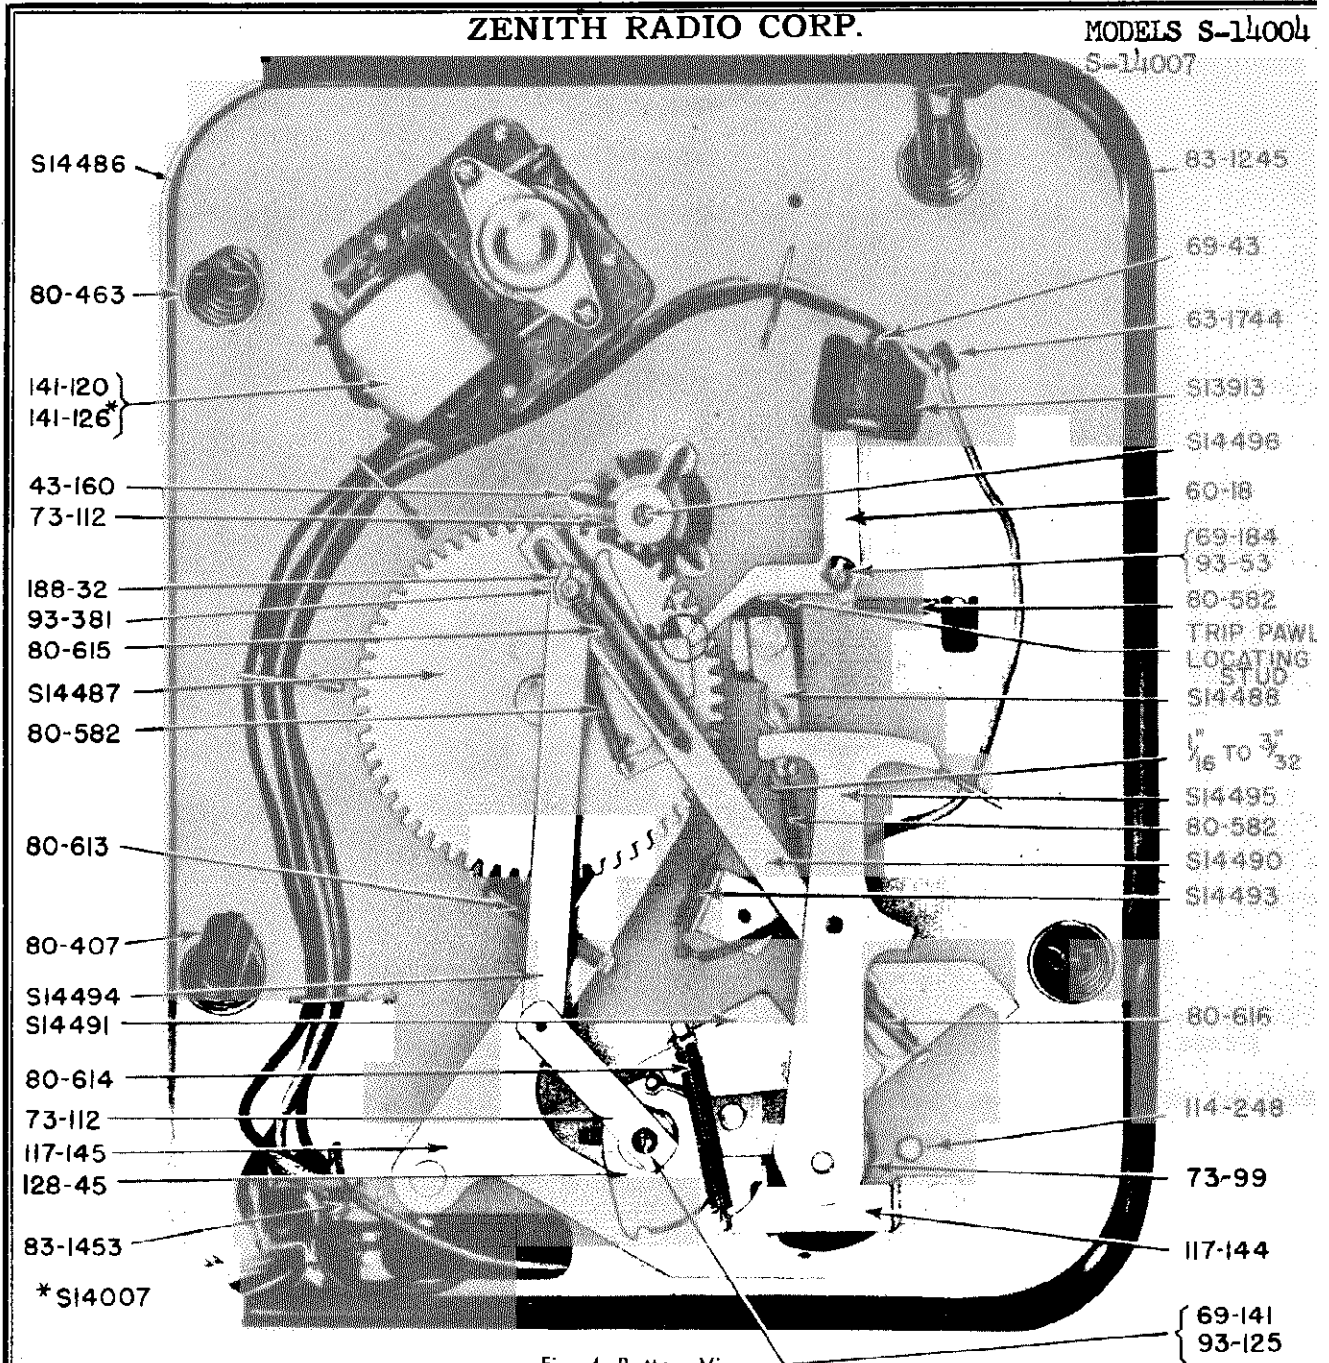

Fig. 4. Bottom View.
- a. Check the pawl lever positioning stud. The tip of the pawl must be in approximately the same position in relation to the gear pawl tooth lever as indicated at "A" in Fig. 4. If the position is not the same as indicated, the positioning stud can be bent slightly.